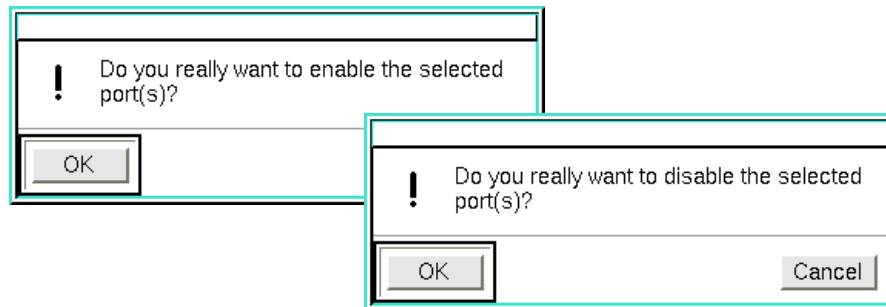

Figure 4-2. Enable/Disable Confirmation Windows
2. Click on either or . The appropriate window shown in Figure 4-2 will appear.